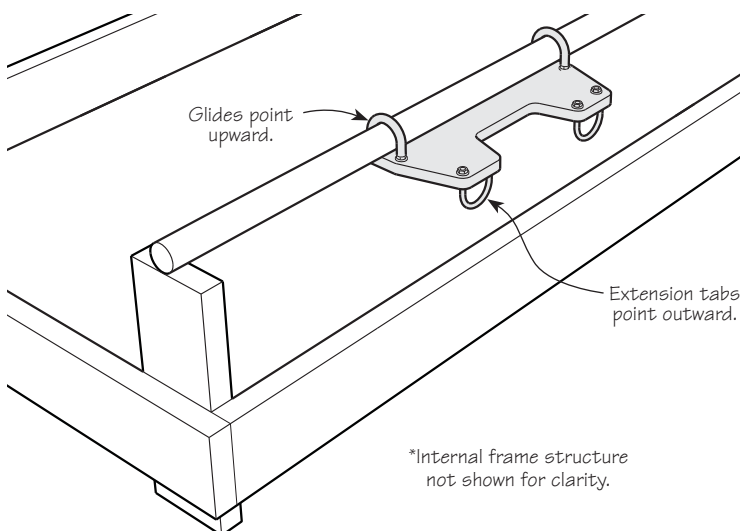

Figure 14: Trunnion assembly installed on rail.
3. When the trunnion is level, the glides should be facing up and the extension tabs facing out, as shown in Figure 14.